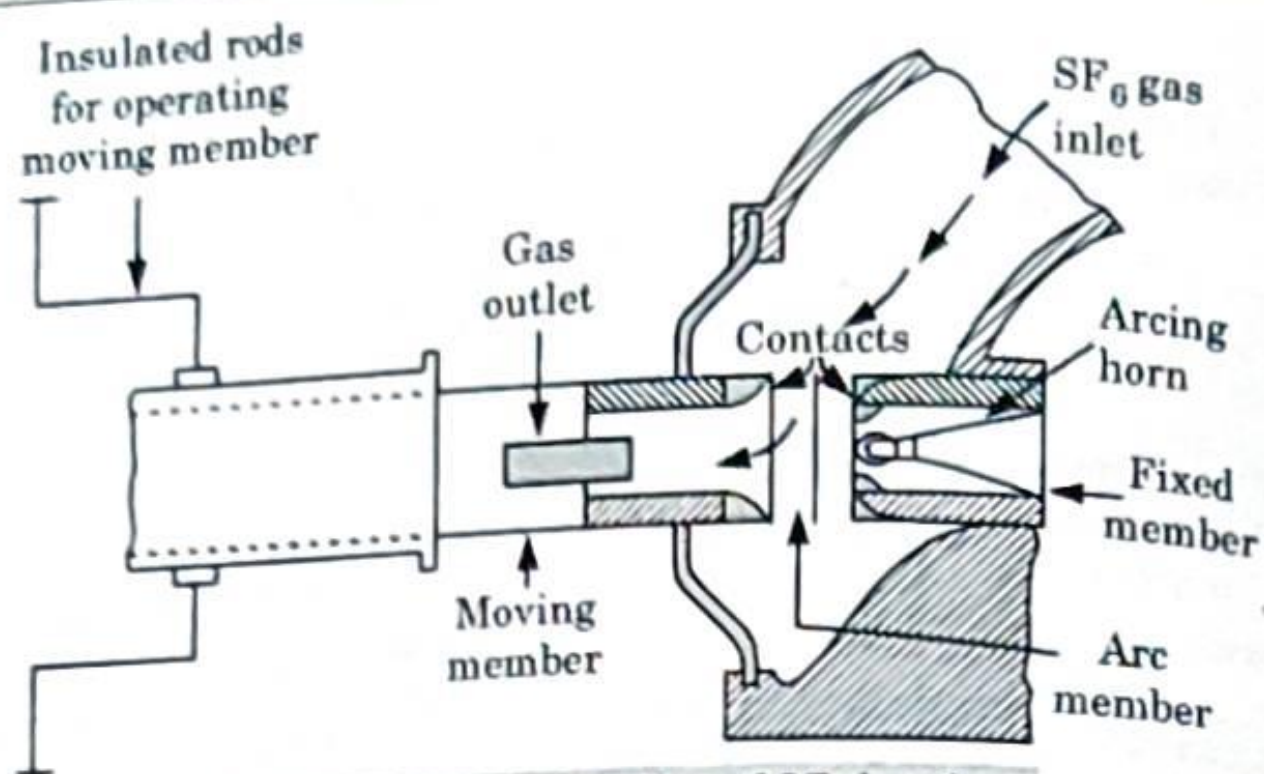

Fig. 4.26.1. Construction of SF₆ breaker.
5. Consider the flow pattern shown in Fig. 4.26.1. When breaker is fully closed, the pressure in puffer cylinder P_1 is equal to that of outside the cylinder.